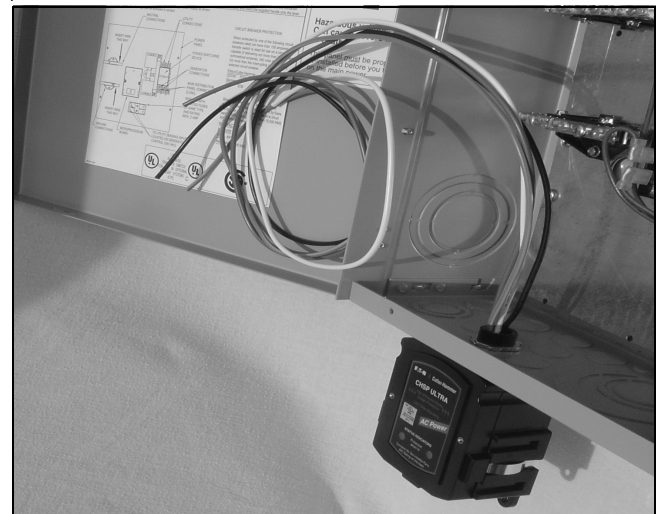

Figure 74. TVSS Secured to the ATS Enclosure.
Step 5: Secure the TVSS to the ATS enclosure using the lock nut removed in Step 3. Be sure to firmly secure the TVSS using an appropriate tool to fully tighten the lock nut (see Figure 74).